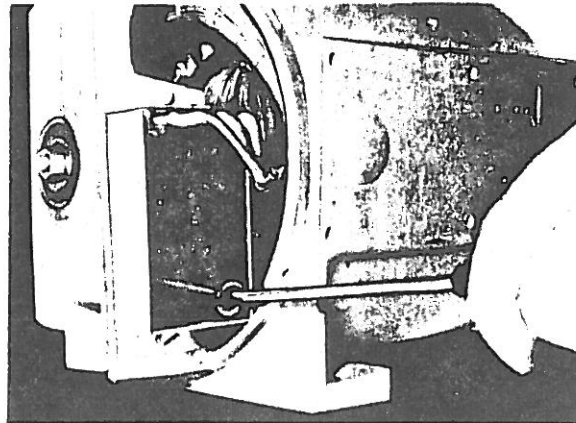

FIGURE 1
- (c) Using a screwdriver Figure 1.